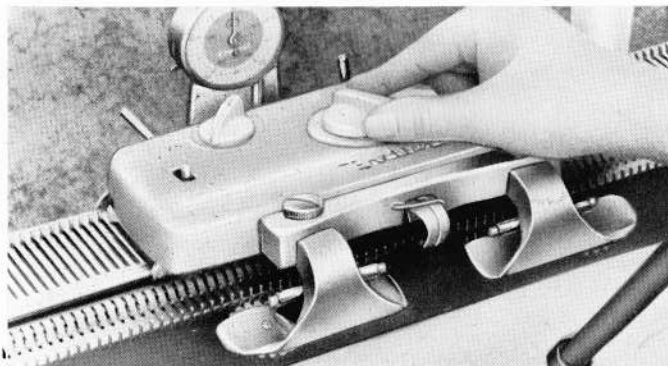

Fig 13
1. Set your tension to the proper gauge by turning the tension regulating knob until tension dial indicator (arrow) points to the desired number. (See Fig. 13.)